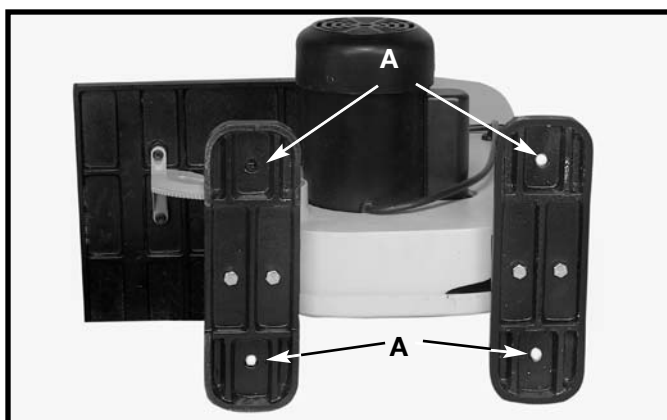
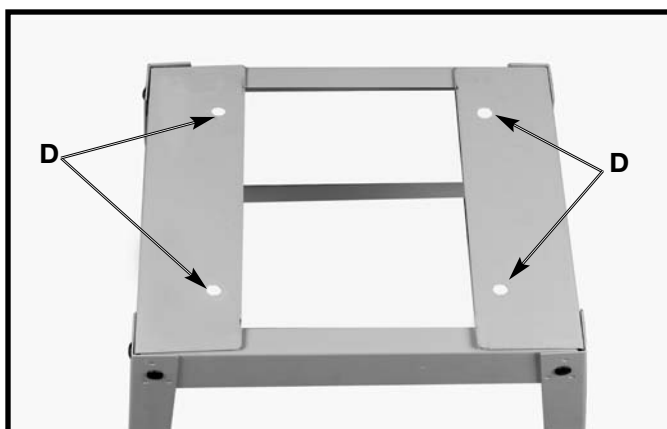

Fig. 5
Fig. 6
1. Fig. 5 illustrates the four through holes (A) which will be used to secure the band saw to the stand.
2. Place the band saw on top of the stand and line up the holes (A) Fig. 5 with the holes (D) Fig. 6 on the top brackets of the stand.